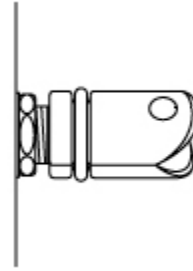
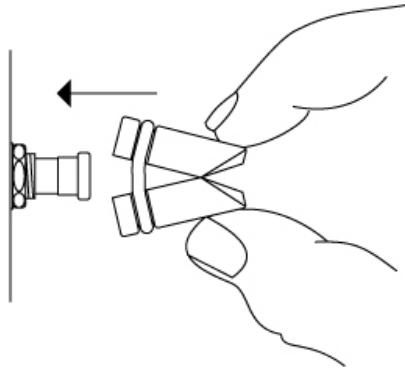

Figure 9. Circuit Breaker Safety Lockout Installed
Figure 10. Circuit Breaker Safety Lockout Installation
1. When positive lockout/deactivation of an electrical circuit breaker is required during ground operations ONLY, use the lockout ring or collar or the safety lock (Figure 9). For typical circuit breakers (3/8" head size) use part number: 296050002. For larger circuit breaker (7/16" head size) use part number: 296050008.
3. When using the lockout ring or collar apply a slight pressure to snap the lockout device onto the circuit breaker shaft. If using the safety lock, pinch the ends of the safety lockout together and slide over the circuit breaker and release (Figure 10). Safety lock remains secure to circuit breaker (Figure 9).